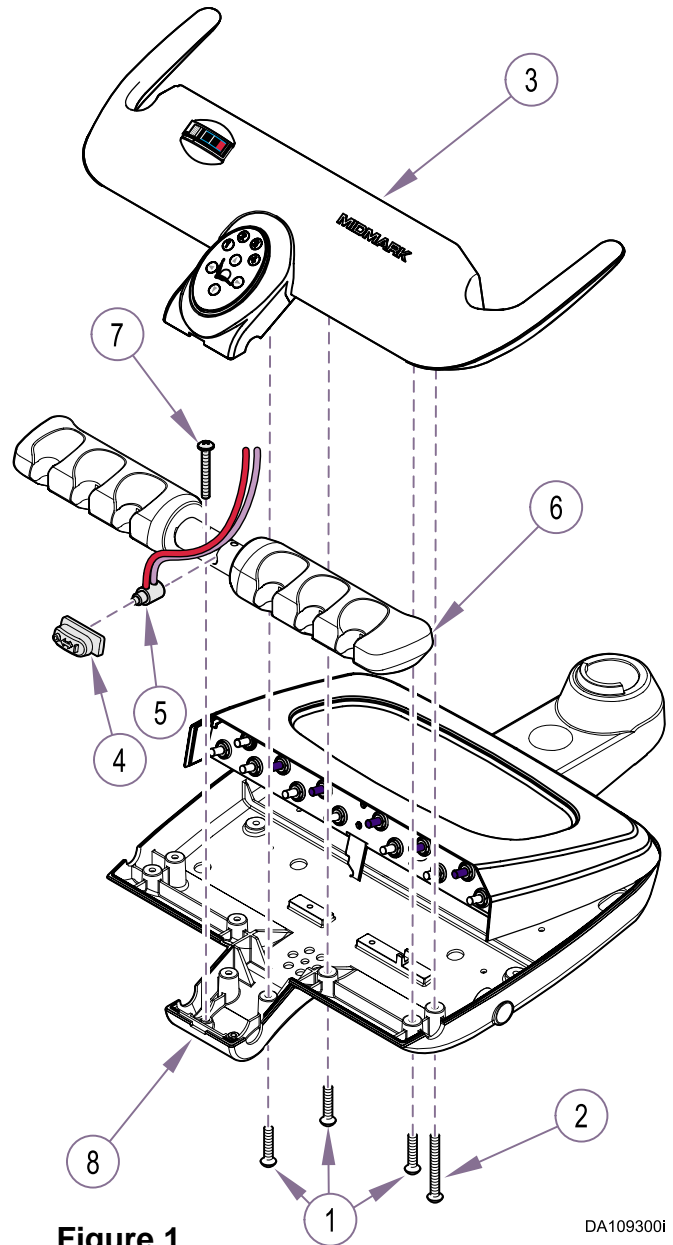

Figure 1
- (3) Remove six screws (1, Figure 1) and two screws (2); then partially separate front cover (3) and remove master switch (4).